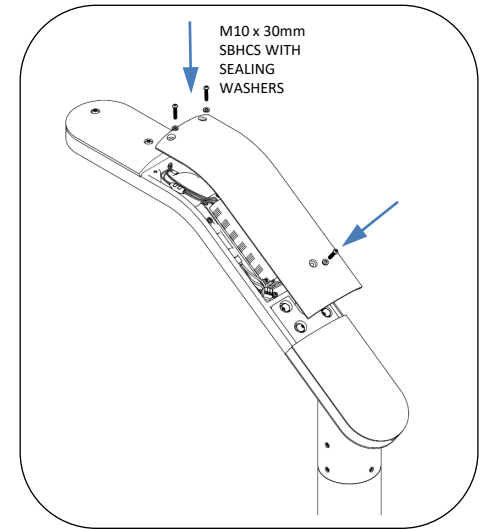

Fig. 8 – Attach luminaire cover
4. Using a 4mm hex key, remove (3) M6 x 30mm button head screws and sealing washers to remove the luminaire cover. See Fig. 8. Set aside, retain hardware.
7. Reattach luminaire cover with (3) M6 button head screws and sealing washers. See Fig. 8.